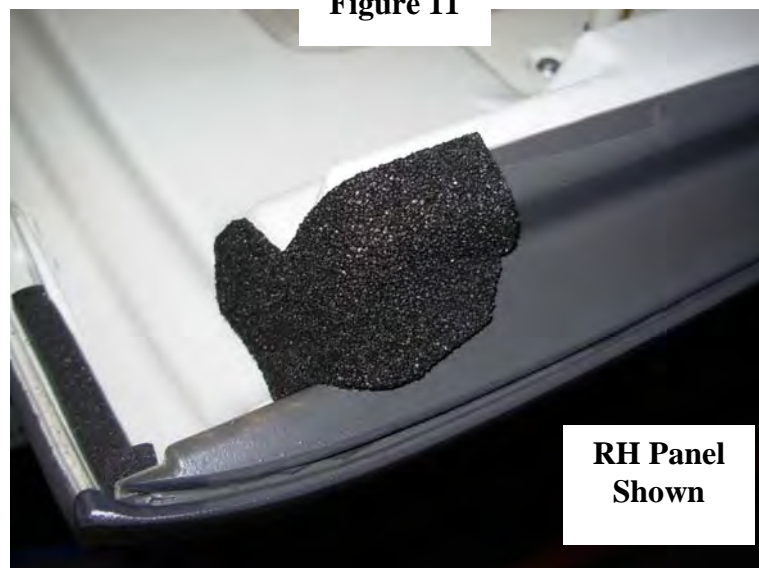

Figure 12
- Install the foam to the freedom panel as shown in Figure 12